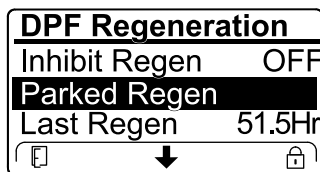

Figure 42
- If the engine computer requests a recovery regeneration or is processing a recovery regeneration and you scroll down to the PARKED REGEN option, parked regeneration locks and the lock icon (Figure 42) appears in the lower right corner of the InfoCenter.